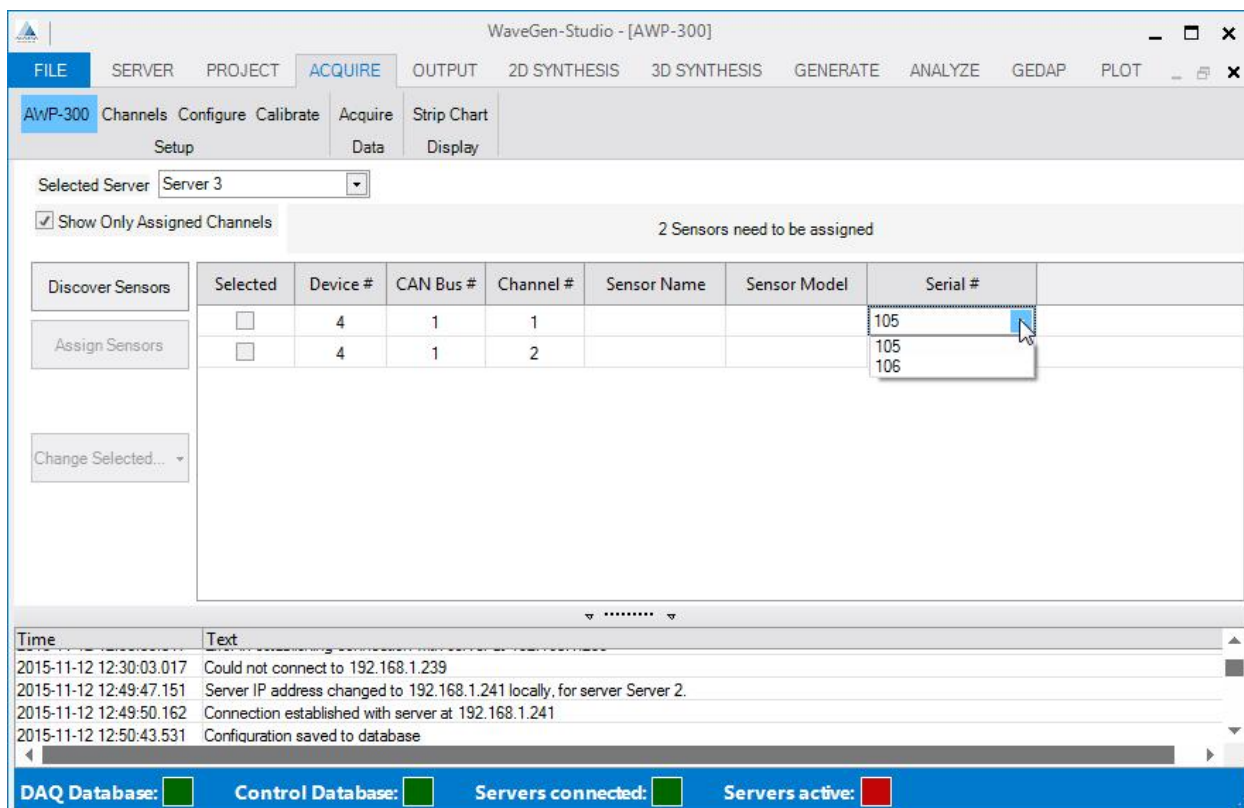

Figure 35: Assign Sensors Window
Clicking on OK closes the Discover Sensors pop-window and the AWP-300 window to re-open (Figure 35) with:
2. Move to the Serial # field in the corresponding row and double click. A drop-down assignment list (see Figure 35) will appear if there are sensors available to assign to that Device/Can Bus/Channel #. Select a sensor, by its serial number to associate it to that channel. **Note:** that once a serial number has been associated using this procedure it will no longer show up on the drop-down assignment list and the message at the top will be updated to reflect the number of sensors that still need to be assigned.
An example of a portion of the AWP-300 table during the assignment of serial numbers 105 and 106 to Device 4, Channels 1 and 2 respectively is shown in Figure 35. Text entries have not yet been added to Sensor Name and Sensor Model fields.